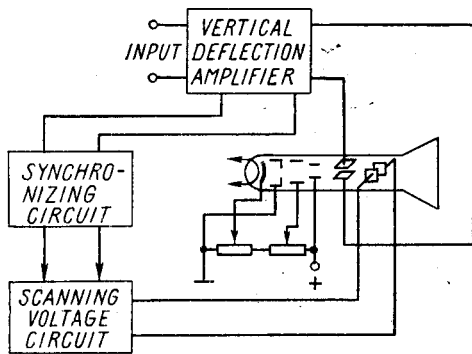

Fig. 7. Simplified diagram of the oscillograph
1. A cathode-ray tube is an essential part of all oscillographs and TV receivers. Consider now the way a cathode-ray tube is employed in the oscillograph. The primary purpose of the oscillograph is to convert electric signals into visual images. A simplified diagram of the oscillograph is shown in Fig. 7.